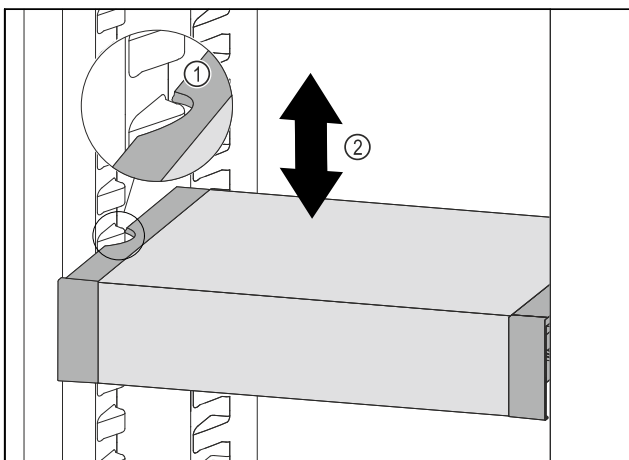

Fig. 88
- ▶ Pull VarioSafe forwards until the recesses in the side of the VarioSafe are at the level of the support rib in the refrigerator compartment. *Fig. 88 (1)*
- ▶ Move VarioSafe up or down in the refrigerator compartment until the desired height is reached. *Fig. 88 (2)*